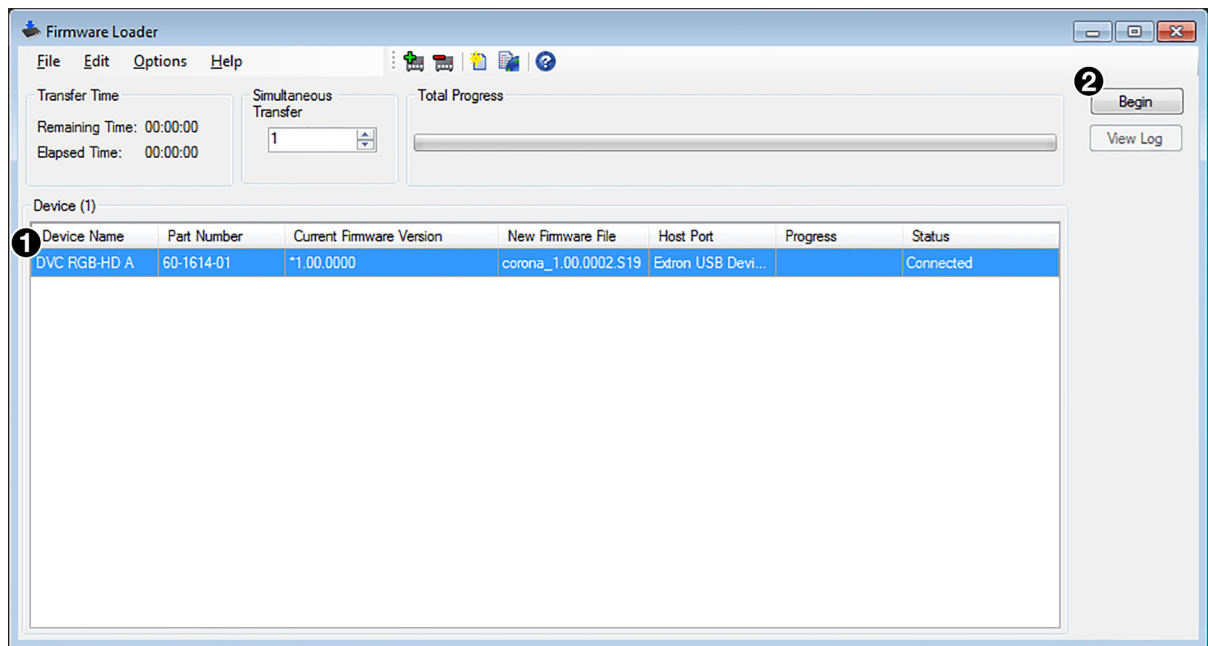

Figure 20. Firmware Loader Screen with a DVC RGB-HD A Added
The DVC information is added to the Device panel of the Firmware Loader window (see figure 20, ①) and the Add Device window closes.
- a. Click the **Add Next** button in the Add Device dialog box. Your first device is added to the Device panel (see figure 20, ②) of the Firmware Loader window, and the Add Device window remains open.
11. Click the **Begin** button (see **figure 20**, **2**, on the previous page). The following indicators show the progress of the update: